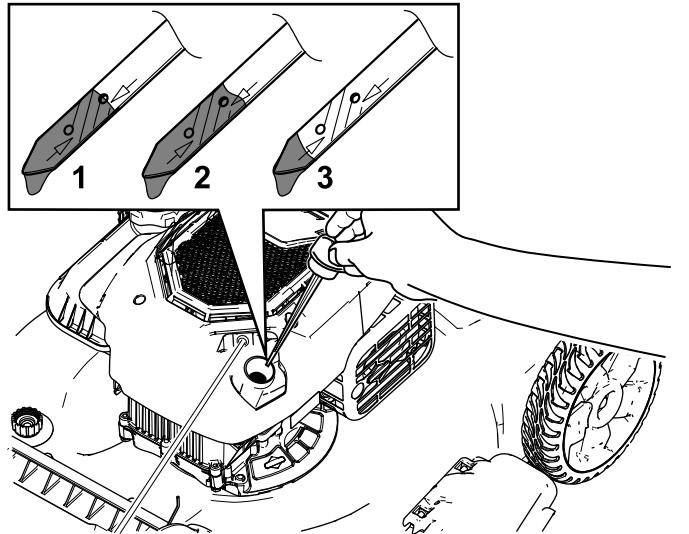

Figure 6
7. Read the oil level on the dipstick (Figure 6).
2. Remove the dipstick by rotating the cap counterclockwise and pulling it out (Figure 6).